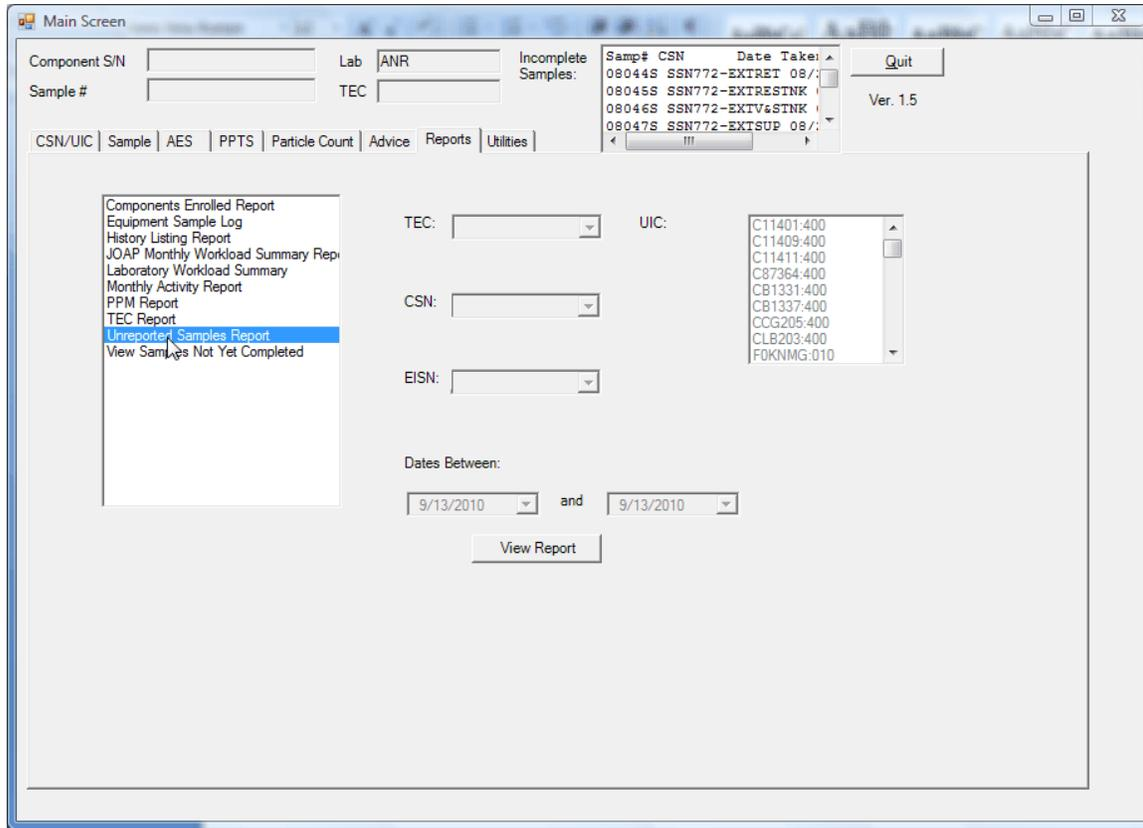

Figure 57. Unreported Samples Report
- h. Unreported Samples Report. Click on Unreported samples report and the following screen will appear (Figure 57).